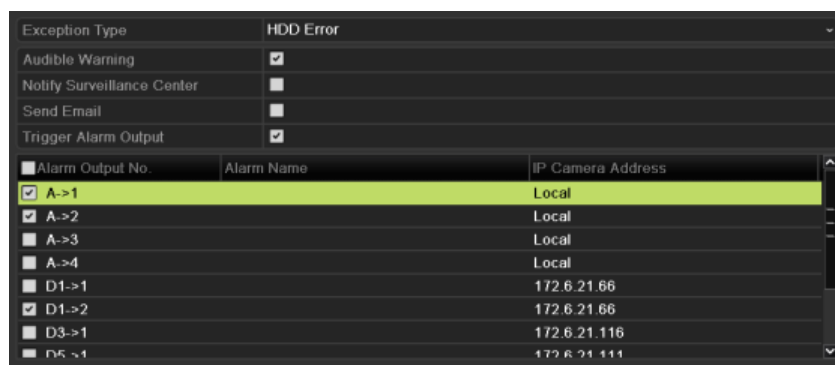

Figure 10.24 Configure HDD Error Alarm
3. Click the checkbox(s) below to select the HDD error alarm type (s), as shown in Figure 10.24.